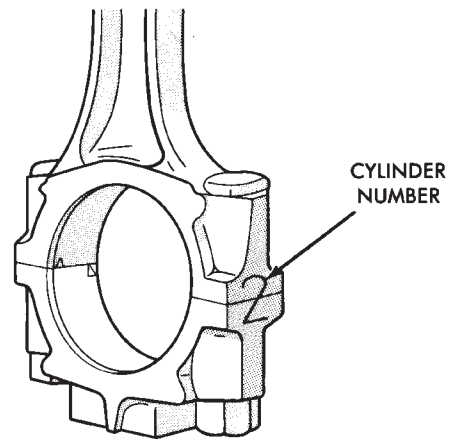

Fig. 3 Mark Matching Parts
- (2) Mark connecting rod and cap with cylinder number (Fig. 3).